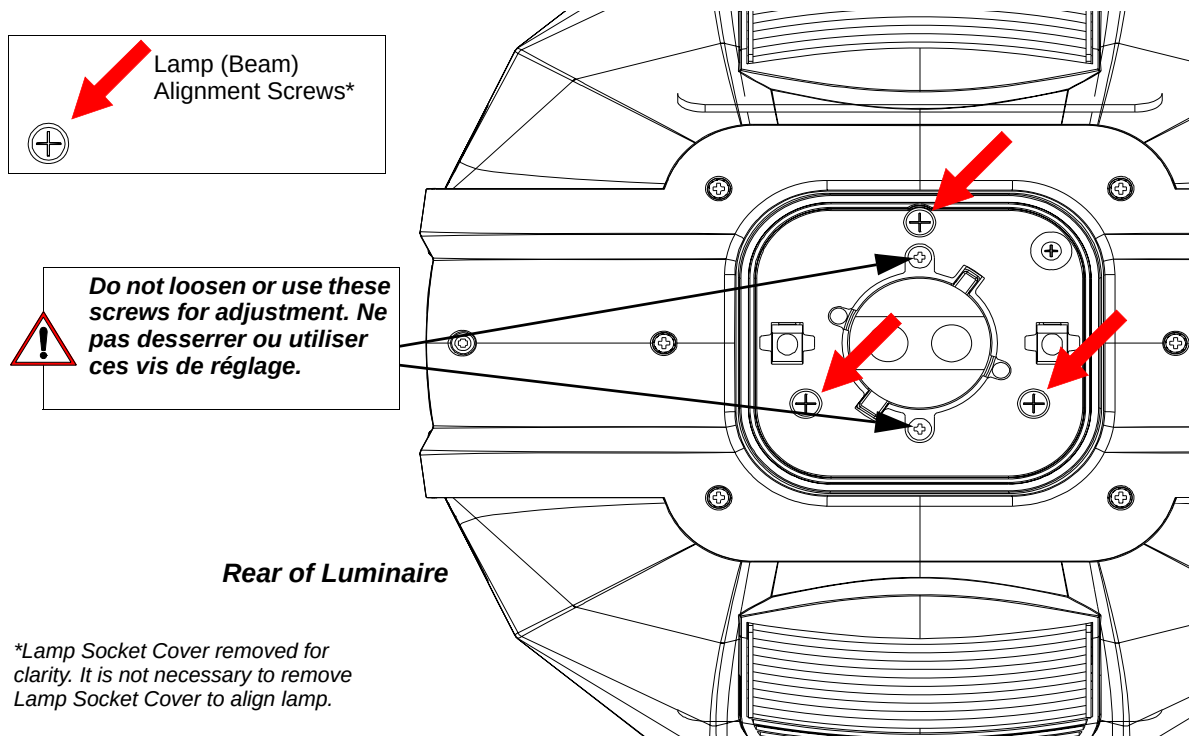

Figure 7: Lamp Alignment Screws
- Step 4. Using three alignment screws (as indicated with Red Arrows in **Figure 7**) adjust hot spot to center of beam.